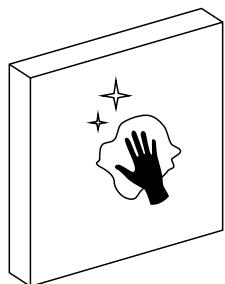

Fig. 6
- ① Clean the surface to which the keypad is to be attached (Fig. 6).